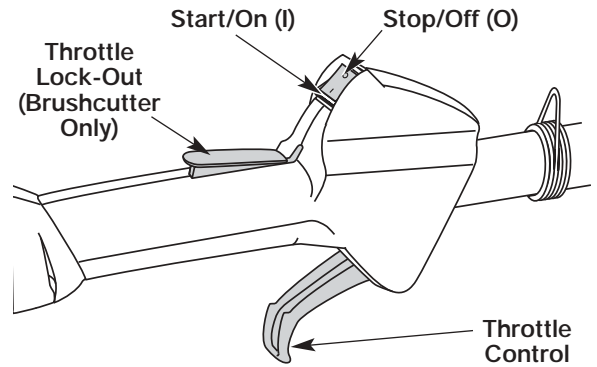

Fig. 16
2. Make sure the On/Off Stop Control in the ON (I) position (Fig. 16).
2. Put the On/Off Stop Control in the OFF (O) position (Fig. 16).